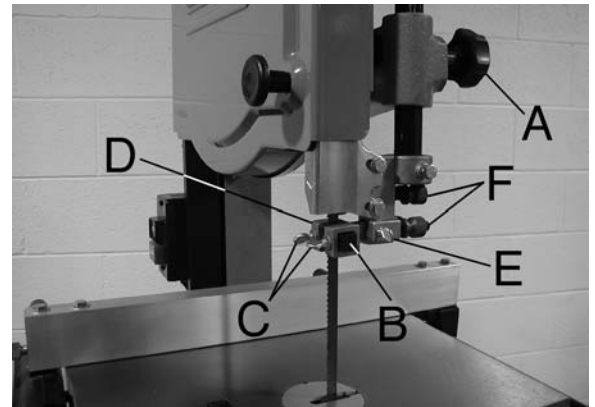

FIGURE 14
1. Set upper blade guide assembly as closely as possible to the top of stock. To do so, loosen lock knob (A-Fig.14), raise or lower the upper blade guide assembly to the desired height.
1. After the blade is tensioned and tracking properly, adjust the upper blade guides (B-Fig.14) and support bearing. To adjust;
2. Loosen thumb screws (C-Fig.14) . Move both guide blocks (B) within .002 inch to the blade. Do not pinch blade. Retighten thumb screws. Center the guide blocks (B) with the blade by moving the blade guide block support (D). Loosen thumb screw (E) then turn the lower adjustment nut (F) to fine tune this adjustment. Retighten thumb screw.
3. To adjust the upper blade support bearing located behind the blade guard, loosen the thumb screw on the opposite side of thumb screw E. Using the upper adjustment nut (F), move the support bearing to 1/64 inch behind the back of the blade.